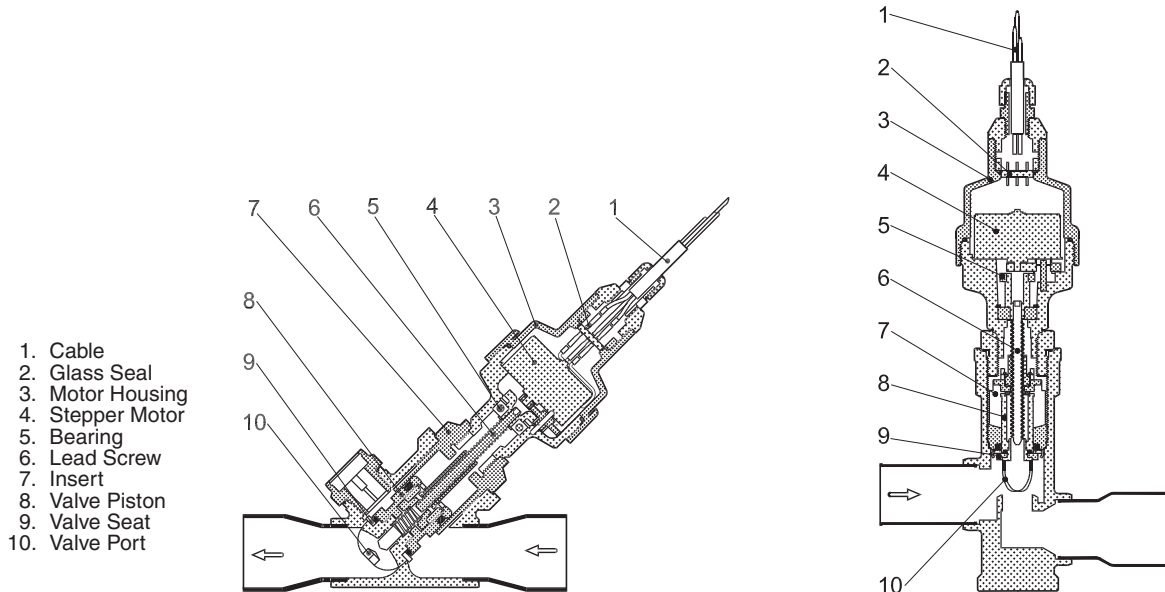

Fig. 49 — Cutaway Views of the Electronic Expansion Valve
Electronic Expansion Valve (EXV) — See Fig. 49 for a cutaway view of the EXV. High-pressure liquid refrigerant enters the valve through the top. As refrigerant passes through the orifice, pressure drops and refrigerant changes to a 2-phase condition (liquid and vapor). The electronic expansion valve operates through an electronically controlled activation of a stepper motor. The stepper motor stays in position unless power pulses initiate the two discrete sets of motor stator windings for rotation in either direction. The direction depends on the phase relationship of the power pulses. The motor directly operates the spindle, which has rotating movements that are transformed into linear motion by the transmission in the cage assembly. The valve cone is a V-port type which includes a positive shut-off when closed. The large number of steps and long stroke results in very accurate control of the refrigerant flow. The stepper motor has either 3690 (main) or 2785 (economizer) steps.
2. The expansion valve motor is hermetically sealed inside the top portion of the valve. See Fig. 49. Disconnect the EXV plug. Carefully unscrew the motor portion from the body of the valve. The EXV operator will come out with the motor portion of the device. Reconnect the EXV plug.
3. Enter the appropriate EXV test step under the Test mode (Main Menu → Quick Test Table). Locate the desired parameter for the Main EXVs: Circuit A EXV Position (Line 3), Circuit B EXV Position (Line 13) or Economizer EXVs: EXV Eco Position Cir A (Line 9), EXV Eco Position Cir B (Line 19). Change the position to 100%. Observe the operation of the lead screw. See Fig. 49. The motor should be turning, raising the operator closer to the motor. Motor actuator movement should be smooth and uniform from fully closed to fully open position. Select 0% and check open to closed operation. If the valve is properly connected to the processor and receiving correct signals, yet does not operate as described above, the sealed motor portion of the valve should be replaced.